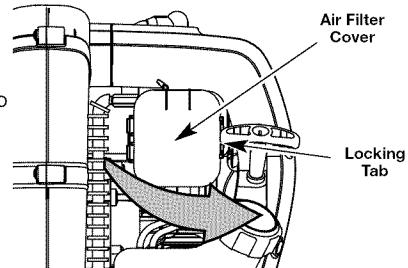

Fig. 17
8. Swing the cover to the right until the tab on the air filter back plate snaps into place in the slot on the air filter cover (Fig. 17).